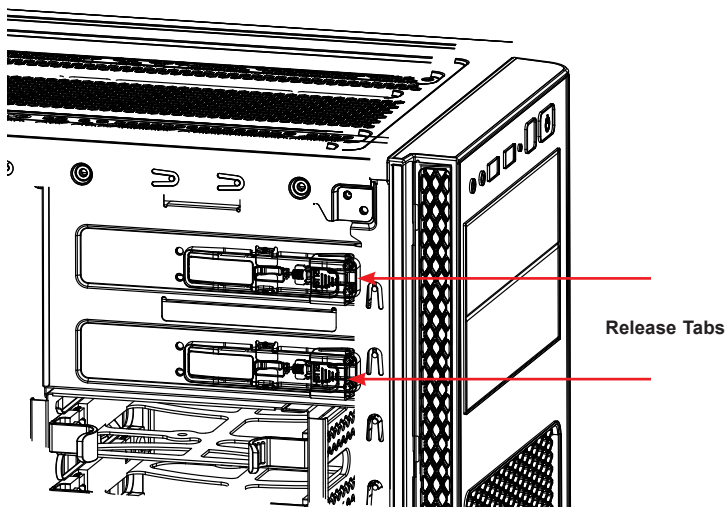

Figure 2-5. Release Tabs for the Drive Tray
2. Locate and press the release tab (Figure 2-5) for the drive tray in which you want to place the drive.